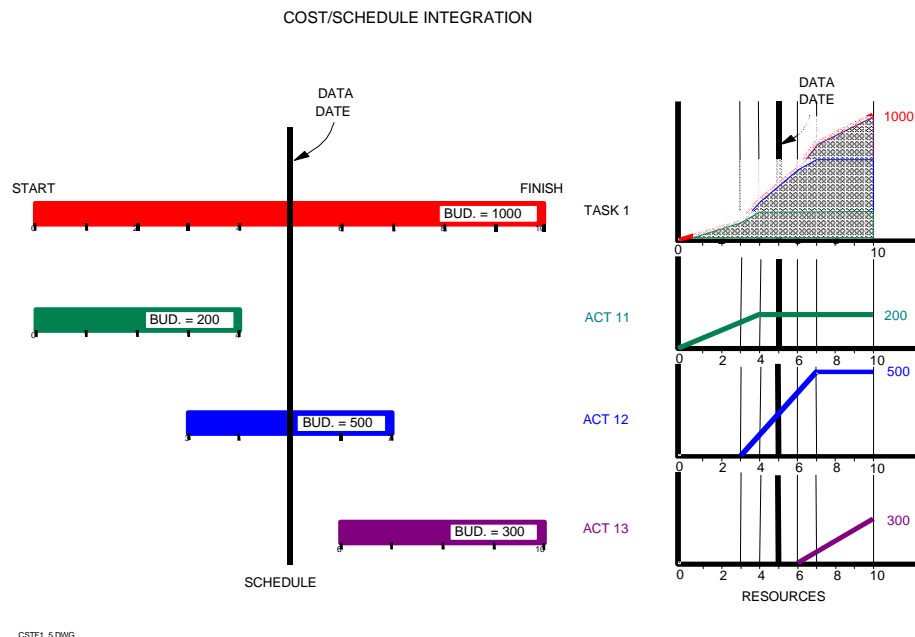

FIGURE 4 - RESOURCE LOADING THE ACTIVITIES
Step 5: Tabulate, Plot and Analyze The final step is to tabulate and plot the information that was loaded and then to analyze this information. The purpose is to assure that the allocation of resources is properly planned. This includes analysis of individual resources to see if the maximum requirement during any time period is available. It also includes review of cash flows, if dollars are entered, to see if the financing plan for the project supports the schedule. Third, it provides a review to see that all project resources and costs that are budgeted are entered into the program. Of course, correction of any anomalies discovered during this step is implied to be a part of this step. Figure 4 represents a very simple illustration of this process. It also illustrates with this very simple example, that the result is the traditional S-curve.